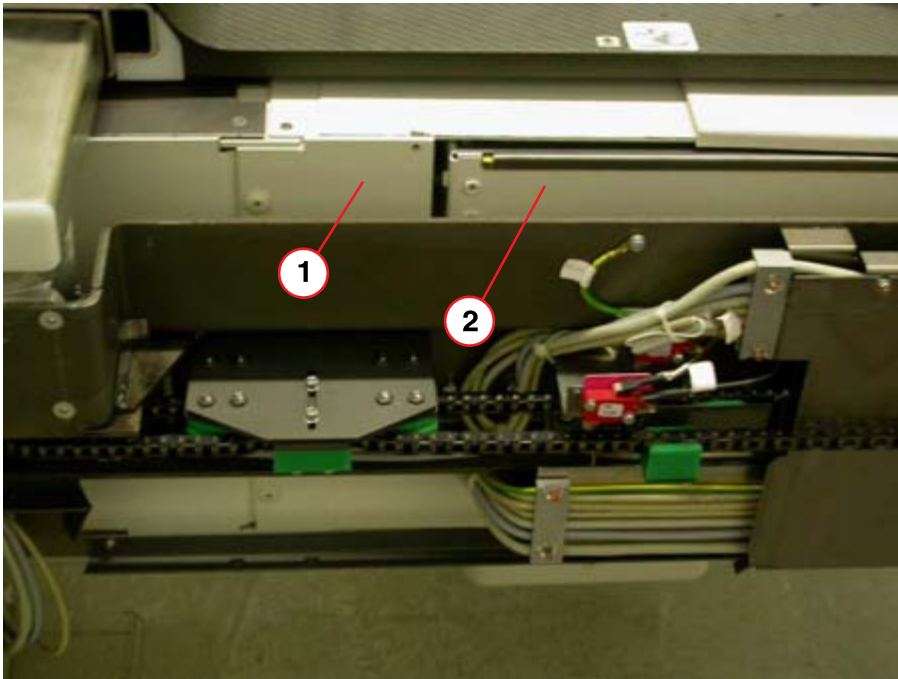
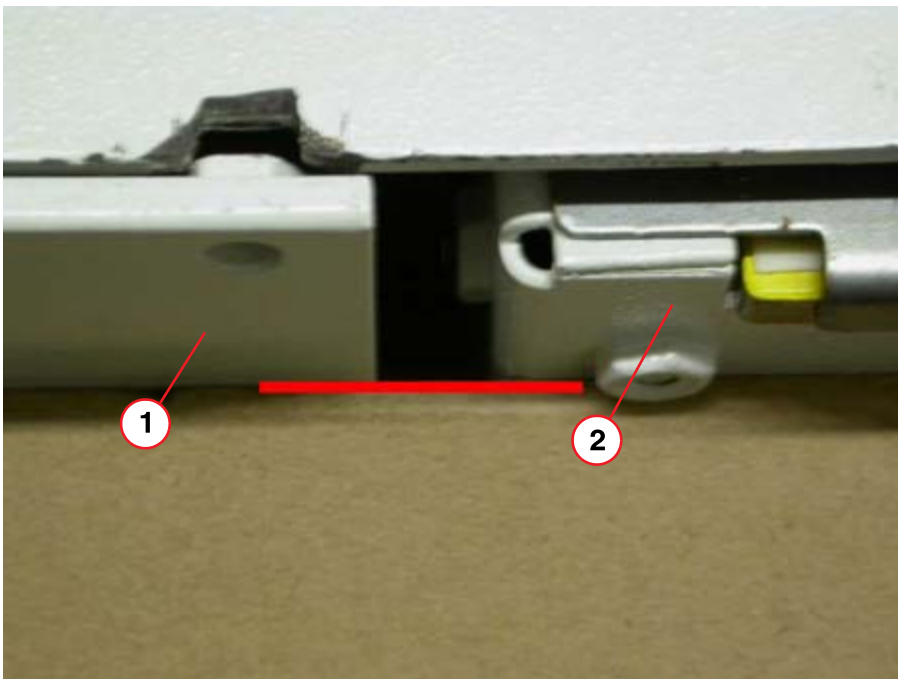

Fig. 33: Cassette position - 1
Fig. 34: Cassette position -2
- Move the cassette to the reference position ((Fig. 33 / p. 58), (Fig. 34 / p. 58)) using the service keys **S1/S2**.
Reference position: Side plate edge (1/ Fig. 34 / p. 58) and cassette box edge (2/ Fig. 34 / p. 58) have to be flush (± 1 mm).